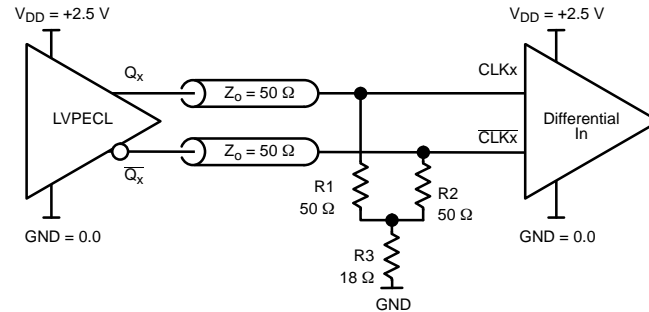
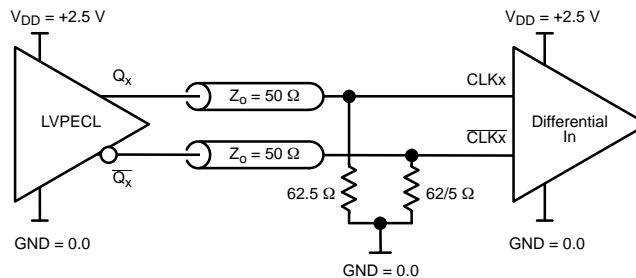

Figure 32. CLK / CLK Inverted Input Driven by 2.5 V LVPECL Driver ('Y' Parallel Termination)
Figure 33. CLK / CLK Inverted Input Driven by 2.5 V LVPECL Driver (Modified 'Y' Parallel Termination)
- 2 V is very close to ground level. The R3 in Figure 32 can be eliminated and the termination is shown in Figure 33. Consult AND8020 for further termination information